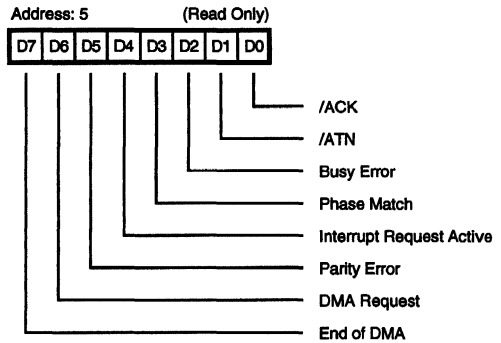

Figure 27. Bus and Status Register
**Bus and Status Register Address 5 (Read Only).** The Bus and Status Register (Figure 27) is a read-only register which can be used to monitor the remaining SCSI control signals not found in the Current SCSI Bus Status Registers (/ATN and /ACK), as well as six other status bits. The following describes each bit of the Bus Status Register individually.
When an interrupt occurs, the Bus and Status Register and the Current SCSI Bus Status Register (Figures 27 and 25) must be read to determine which condition created the interrupt. IRQ can be reset simply by reading the Reset Parity/Interrupt Register or by an external chip reset /RESET active for 100 ns.